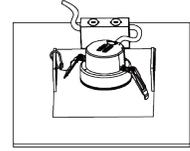

Fig. 6
7. Once luminaire is inside housing, release housing clips and continue to push luminaire into housing until securely fixed and flush with ceiling. Restore power. (Fig. 6)